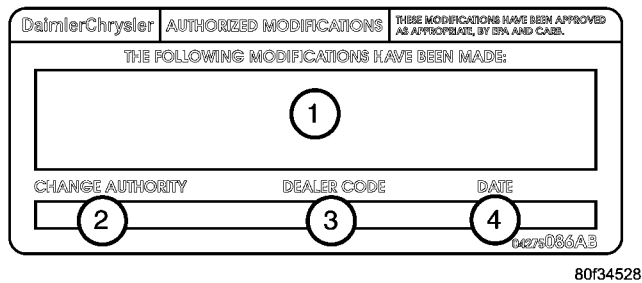

Fig. 1 AUTHORIZED MODIFICATION LABEL
5. Type the necessary information on the “Authorized Modification Label” p/n 04275086AB and attach near the VECI label (Fig. 1).